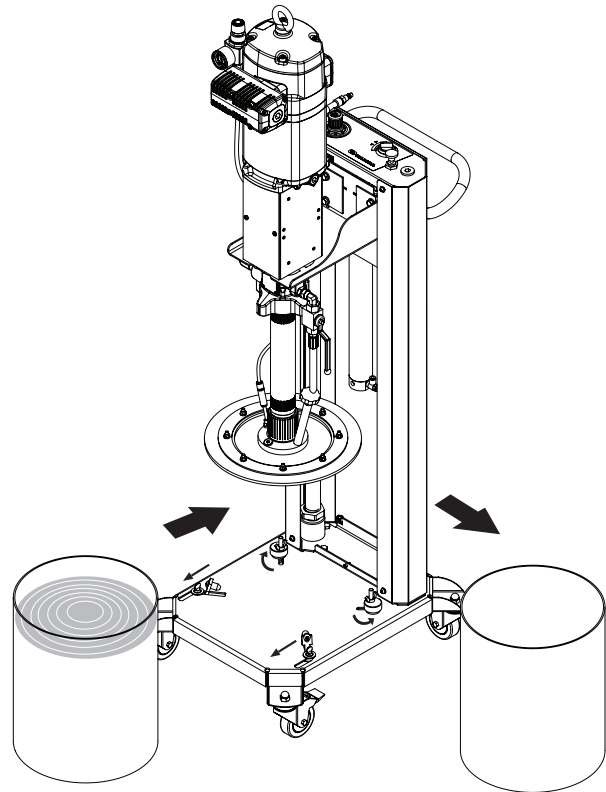

Fig. 12
- Open the pail fasteners (Fig. 12).
- Replace the pail following previous instructions (Fig.12).